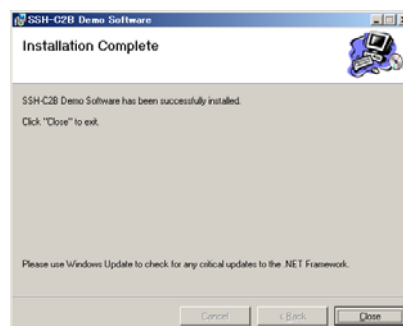

Fig.5-4
5. When installation is complete, the next window (Fig.5-4) is displayed. Click the 「Close」 button.